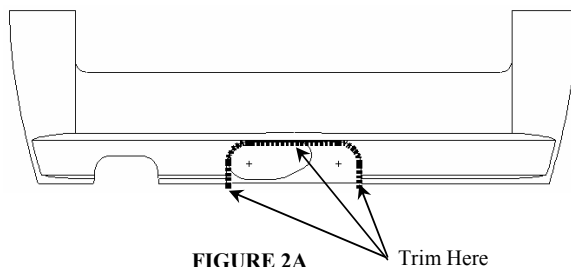

FIGURE 2A
- a. 2004 and 2005 Models: trim inner fascia as shown in **Figure 2A**. Trim the inner fascia to same profile as the access door. Trimming of the outer fascia is not required.